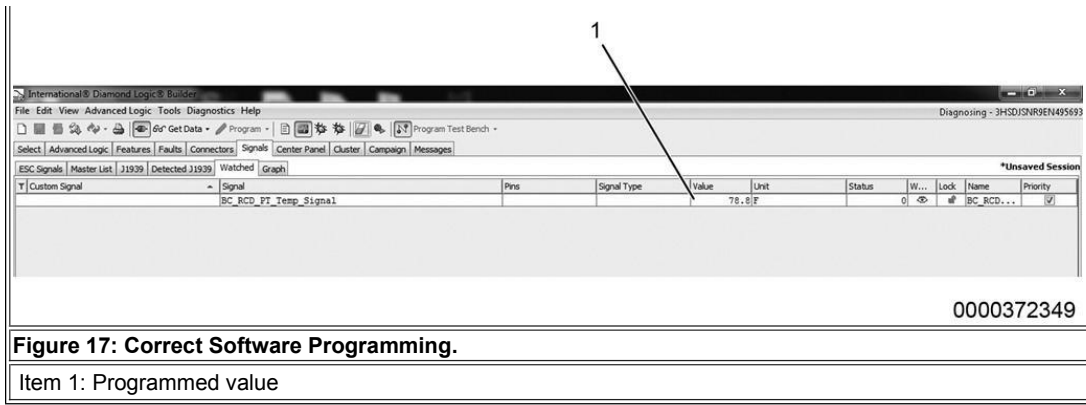

Figure 17: Correct Software Programming.
- If temperature signal shows a value (Figure 17, Item 1), BCM programming is successful.